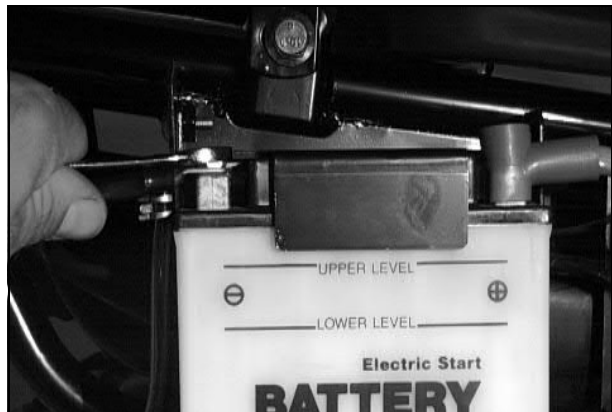

Fig.1
2. Disconnect the battery by removing the negative cable first and then the positive cable, (Fig.1).